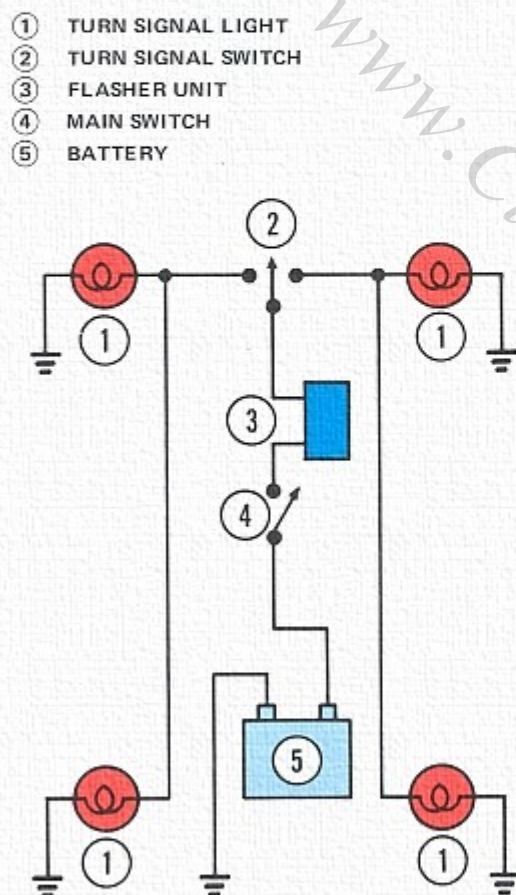

Fig. 97 Turn Signal Circuit
A simple turn signal circuit is shown in Fig. 97. With main switch ④ and turn signal switch ② on, current flows from the battery ⑤, through a flasher unit ③, to either the left or right turn signal lights ①, as determined by the position of the turn signal switch ②. The flasher unit ③ repeatedly opens and closes the circuit, causing the turn signal lights to blink.